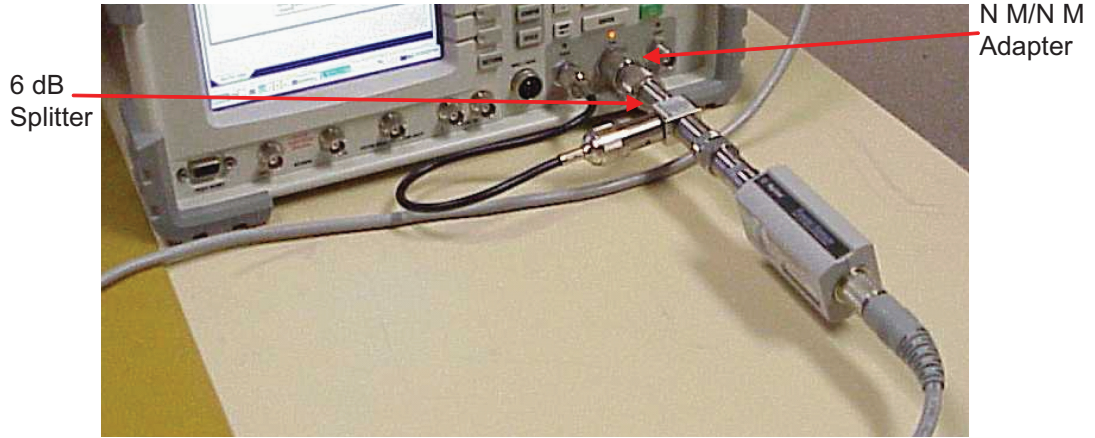

Fig. 4-30 T/R Port 0-40 dB Calibration Setup
3.	Configure equipment. Refer to Fig. 4-30 as needed.